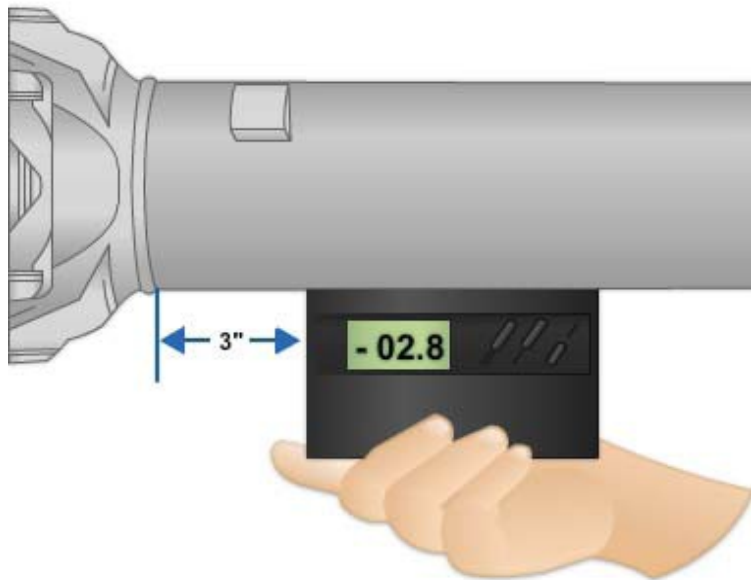

Figure 8-57 - Checking the driveshaft angle.
5. Now check the driveshaft angle between the transmission and drive axle carrier. On short tube length driveshafts, measure the angle of the driveshaft on either tube or slip yoke lug with the bearing cap removed. On long tube length driveshafts, measure the angle on the tube at least 3 inches away from the yoke circumferential weld and at least 1 inch away from any balance weights, (*Figure 8-57*). Make sure you remove any rust, scale, or flaking from the driveshaft tube so that you can obtain an accurate measurement.